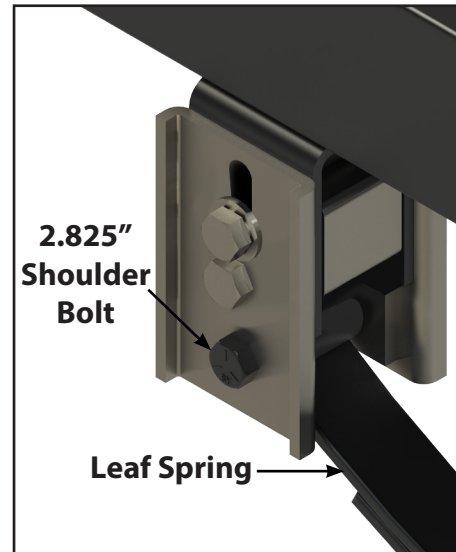
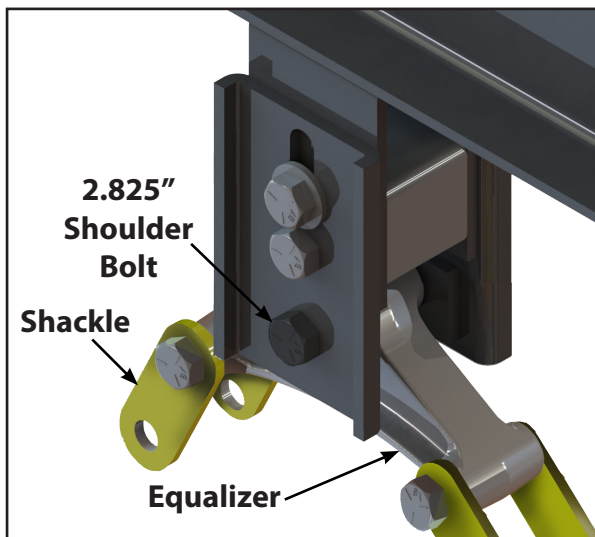
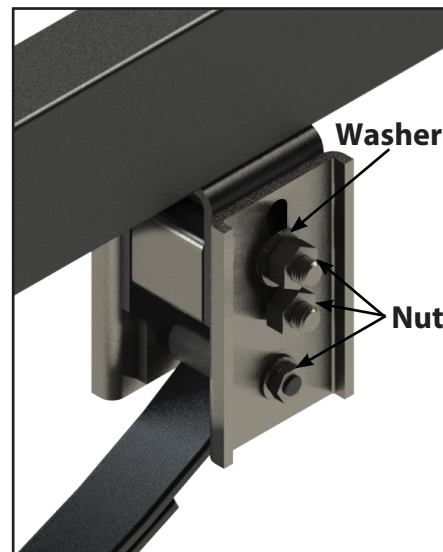

Fig.6
Fig.5
Fig.7
4. Bolt the equalizer assembly back into the new plate assembly using a 2.825" shoulder bolt (bolt length 3.375") and a nut to secure it (Fig. 5). Torque the equalizer shoulder bolt and nut.
5. Use floor jacks to raise the axle, bringing the eye of the leaf spring back into the hanger (Fig. 6) and or equalizer/shackle area (Fig. 5).
6. Bolt the assembly together using a 9/16" x 2.825" shoulder bolt (bolt length 3.375") and a nut (Fig. 6 and Fig. 7). Torque the nut at the spring hanger.